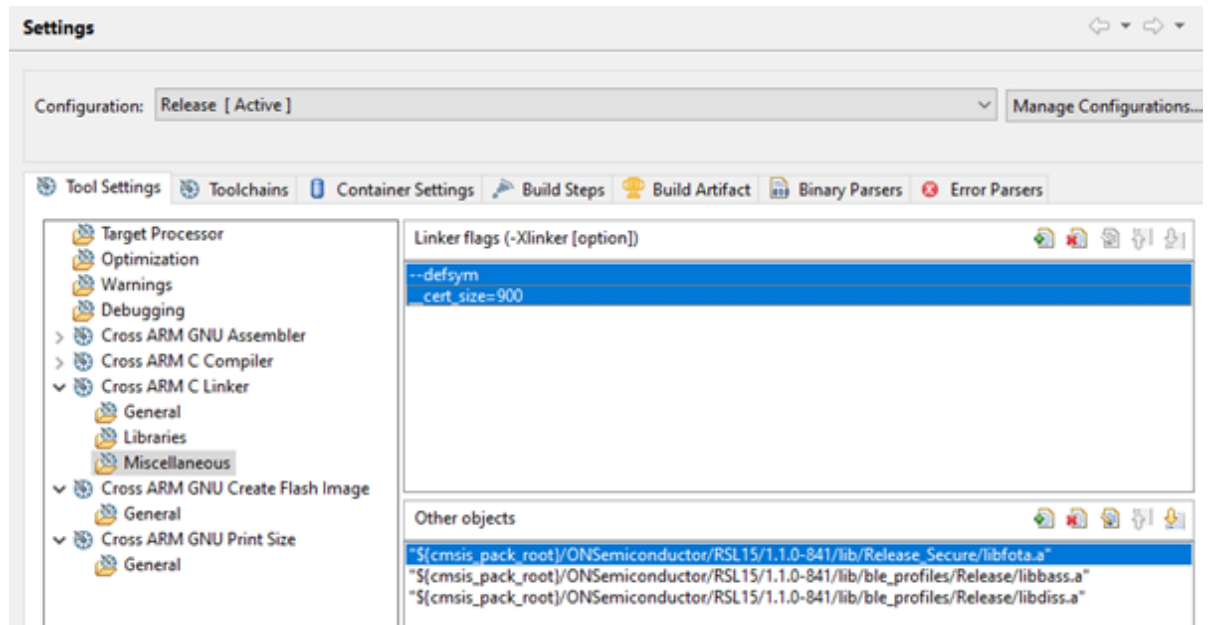

Figure 21. Updating Secure Configuration
- b. Change the path of *libfota.a* to use the Secure FOTA library `${cmsis_pack_root}/ONSemiconductor/<device>/<version>/lib/Release_Secure/libfota.a` (see the figure "Updating Secure Configuration" (Figure 21)).